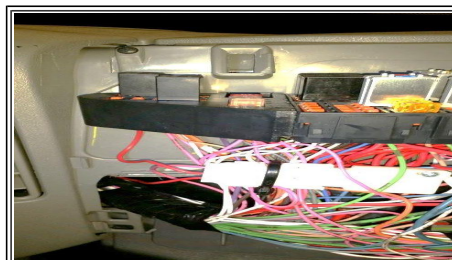

Figure 3: Relay and terminal lock
6. Remove starter relay and orange terminal lock (Figure 3) by using a pick tool by prying up on the corner (if terminal lock breaks upon removal, replace with lock from unused area in fuse/relay block)